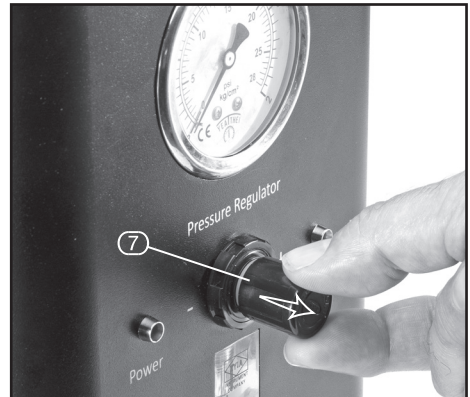

FIG.6
8.6 SET UP FOR TURBO/HIGH PRESSURE TESTING - FIG.6
- Turn flow control valve (9) off.